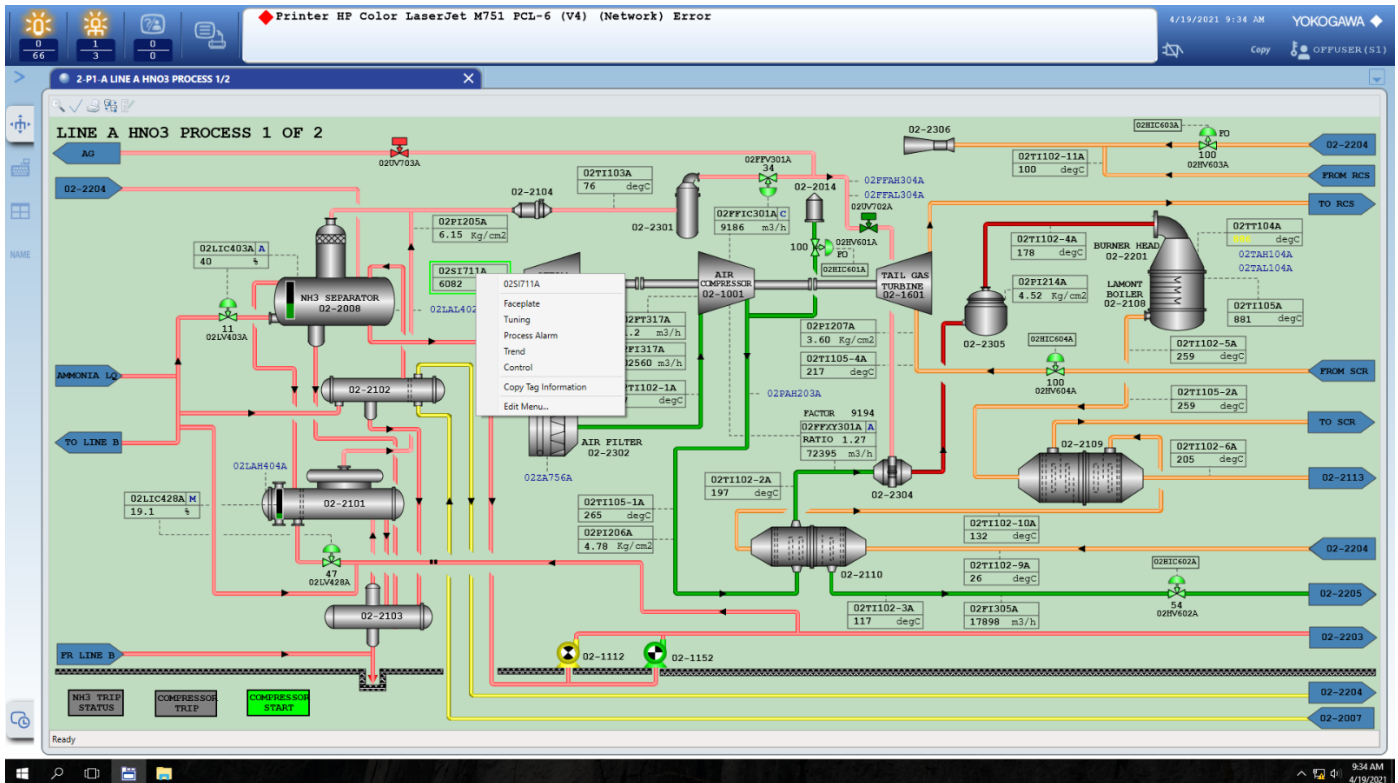

Figure 12: Right-clicking on any tag number on the process diagram shows options for additional information regarding the tag's parameter
- i) **Through Graphic Page:** One way is to find the desired tag number on the process diagram graphic page accessed through the overview toolbox under the view tab. Right-clicking on the tag will show a menu as depicted in Fig 12. The trend option can be clicked to view the corresponding trend.